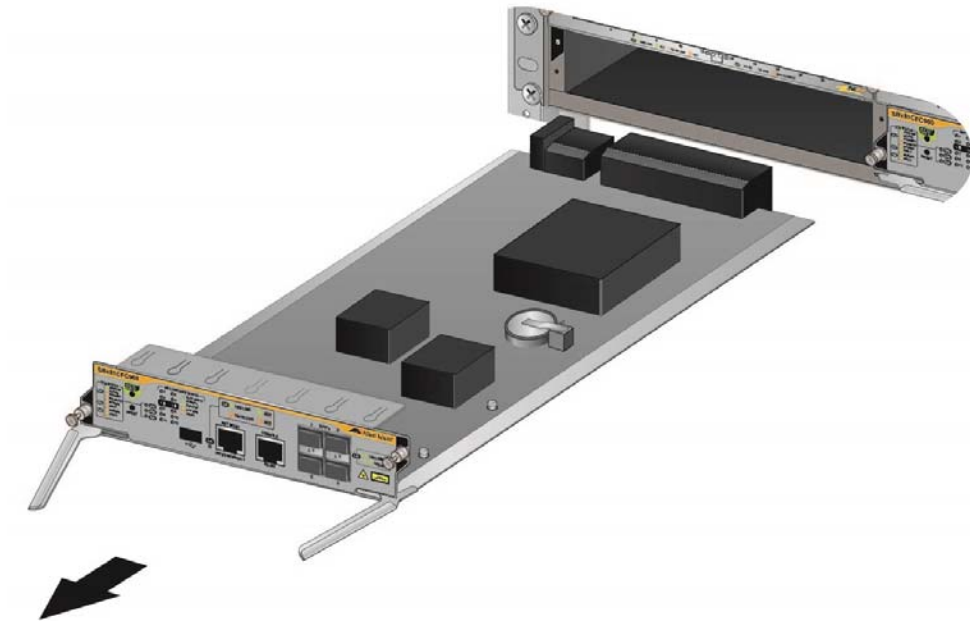

Figure 191. Removing the AT-SBx81CFC960 Controller Card
5. Carefully slide the controller card from the chassis. Refer to Figure 191 on page 296.